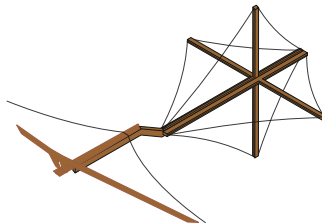

Figure 5
- (1) The joints between the vertical unit and the two horizontal surfaces are simple butt joints. If you are soldering these items together, it is best to tin the surfaces before putting them together.
- (2) When they are tinned, put them in position, then apply heat to one end at a time, until the tinning melts and fuses together.
- E Attach the tail unit to the centre spar of the sail as shown in Figure 5.